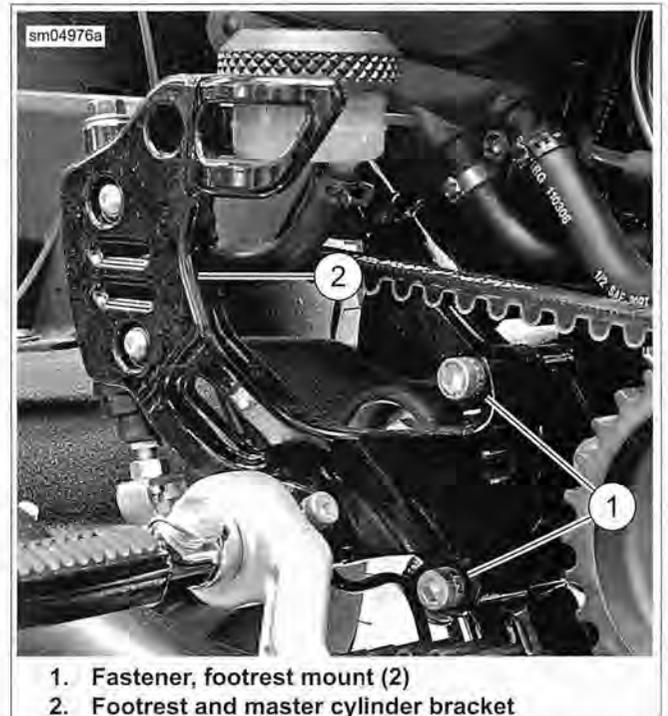

Figure 3-20. Right Footrest and Rear Master Cylinder
18. See Figure 3-20. Remove fasteners (1) and remove rider's right footrest including master cylinder assembly and rear brake linkage. Be careful not to bend or kink metal brake line and remove assembly out left side of motorcycle. Tie assembly, with master cylinder upright, out of the way.
- d. Throttle Position (TP) sensor connector [88].